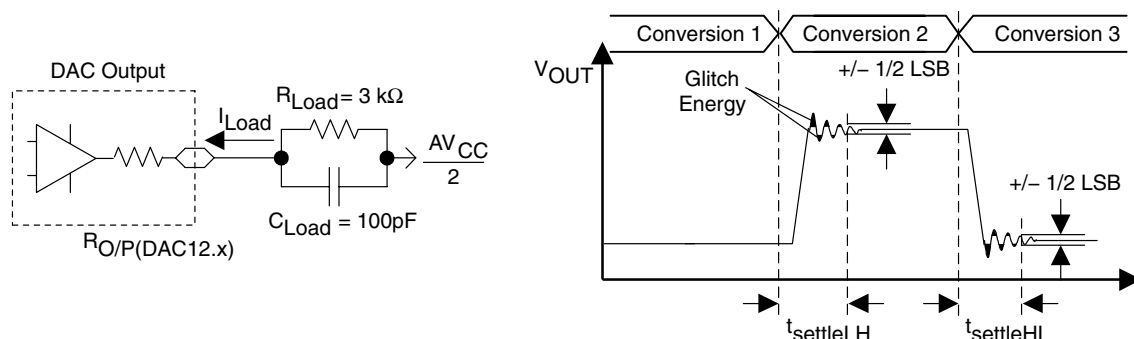
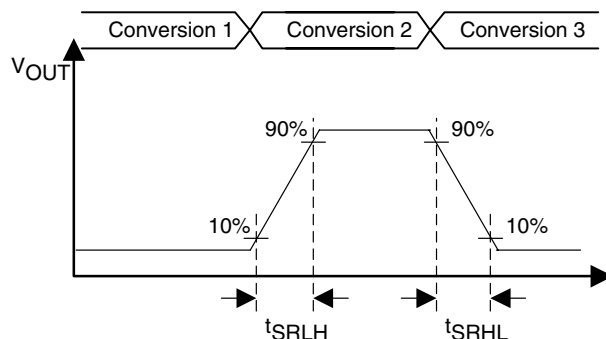

Figure 23. Settling Time and Glitch Energy Testing
Figure 24. Slew Rate Testing
### 12-bit DAC, dynamic specifications; Vref = VCC, DAC12IR = 1 (see Figure 23 and Figure 24)
- NOTES: 1. RLoad and CLoad connected to AVSS (not AVCC/2) in Figure 23.